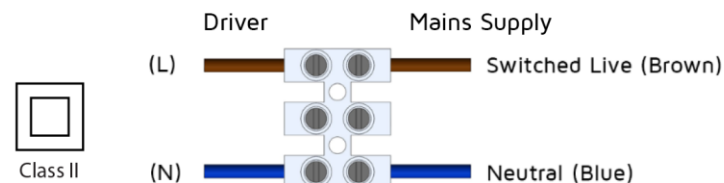

Fig.2
Step 2: Wire the flying leads from the LED Driver into the mains supply, Fig.2.